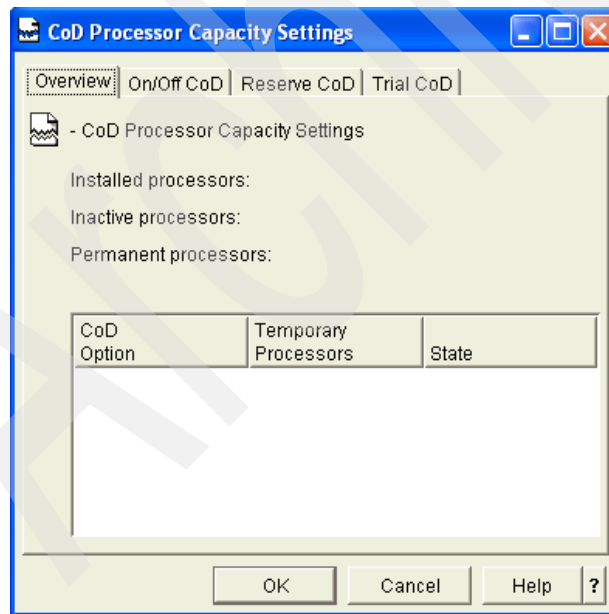
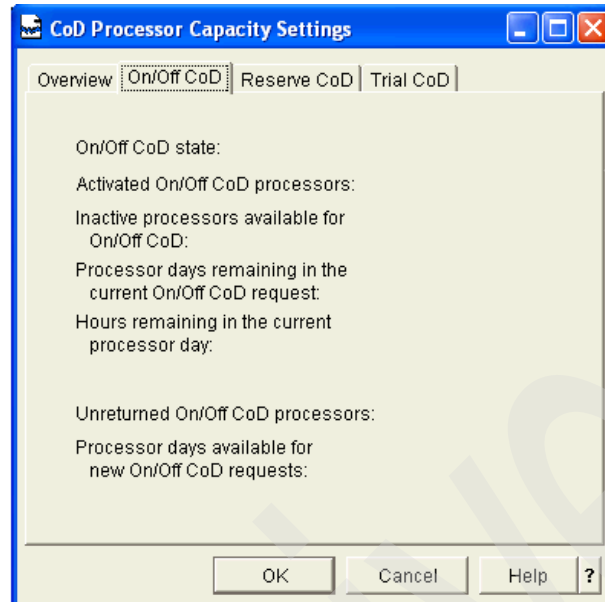
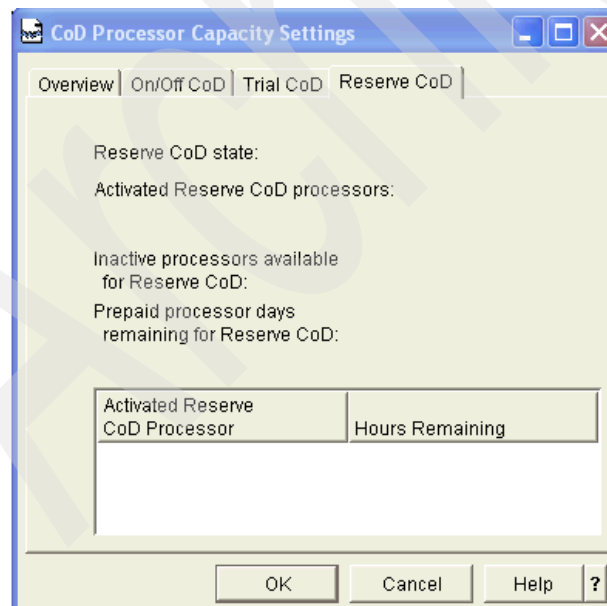
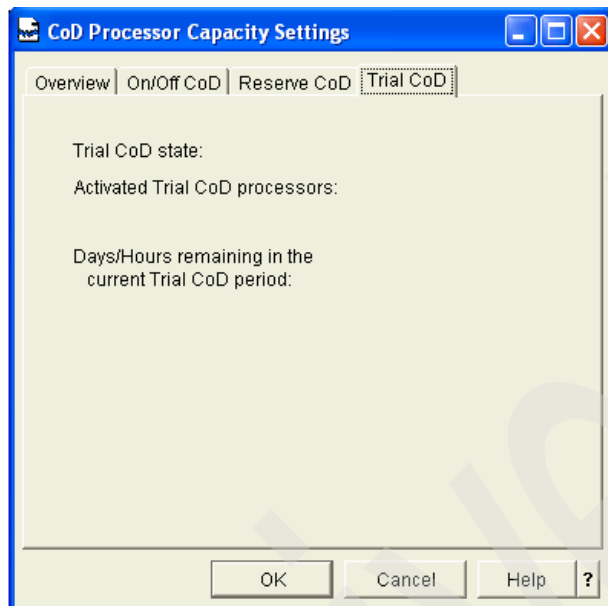

Figure 4-7 CoD Processor Capacity Settings Overview HMC window
Figure 4-8 CoD Processor Capacity Settings On/Off CoD HMC window
Figure 4-9 CoD Processor Capacity Settings Reserve CoD HMC window
Figure 4-10 CoD Processor Capacity Settings “Trial CoD” HMC window
- The HMC also has a set of panels that summarize the existing CoD processor and memory capacity settings. The following figures (Figure 4-7, Figure 4-8 on page 102, Figure 4-9 on page 102, and Figure 4-10 on page 103) provide examples of the CoD capacity settings for processors; the windows for memory capacity settings are almost identical.